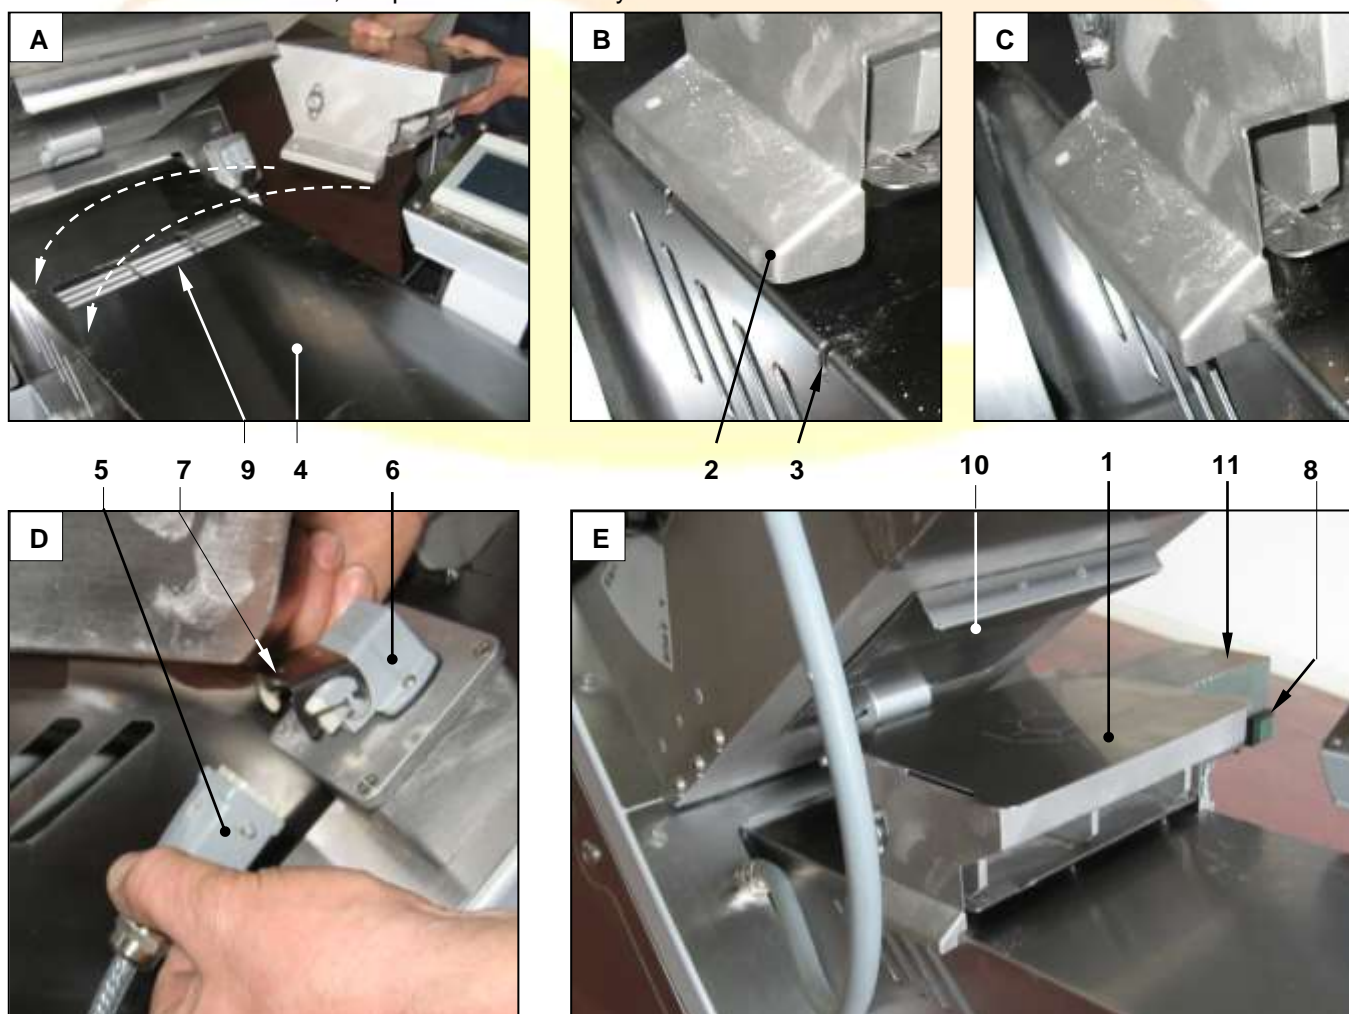

Figure 15 – Assembling/Disassembling the flour duster
The mass of the flour duster is approximately 8 kg, mostly concentrated on the side of the motor ref. 11 Figure 15.
With reference to Figure 15, which illustrates a CALYBRA model: